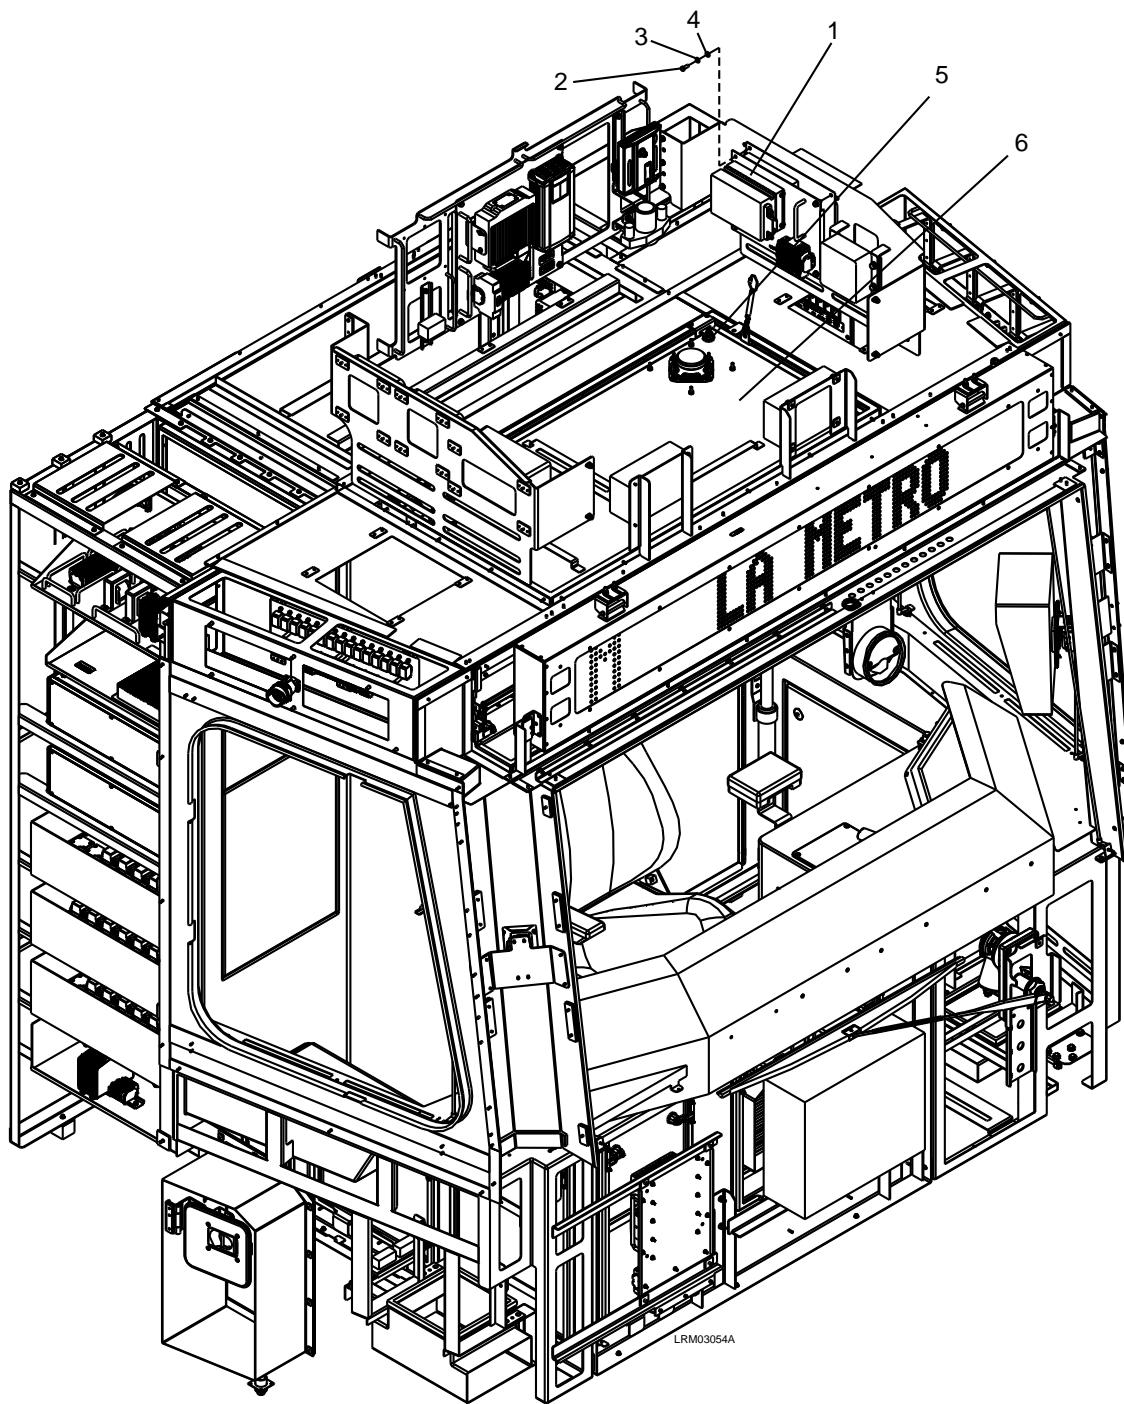

Figure 7-62: 12Vdc Power Supply
1. Unlock the two locks (5) and lower the cab ceiling panel (6) to access the 12Vdc Power Supply (1) and disconnect the WAGO terminal electrical connection. See Figure 7-62.
2. Remove the four M6 x 16 bolts (2), M6 lock washers (3), and M6 plain washers (4).
3. Carefully remove the 12Vdc Power Supply (1).